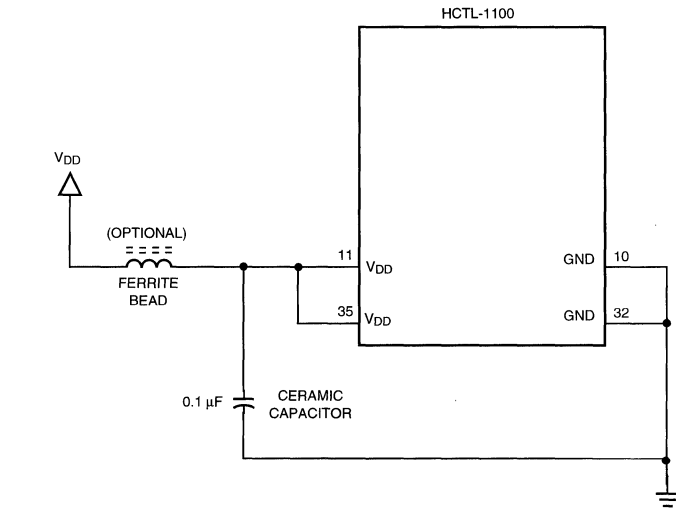

Figure 8. Power Supply Filtering.
- b) Use a ferrite bead on V_{DD} in conjunction with a ceramic capacitor. Figure 8 shows the placement of these components.